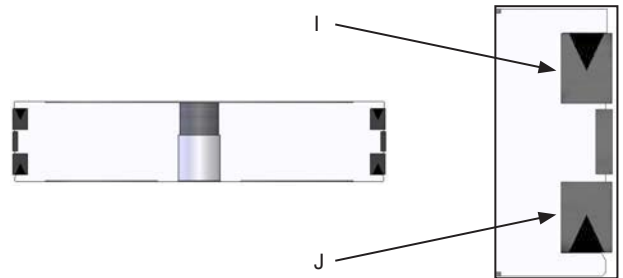

Figure 13. Piston U-Cup orientation
11. Replace TOP SEAL O-RING (G), BOTTOM SEAL O-RING (H), TOP PISTON U-CUP (I), and BOTTOM PISTON U-CUP (J) with correct seal kits given in table 2. Orientation of U-CUPS (I,J) are shown in figure 13.